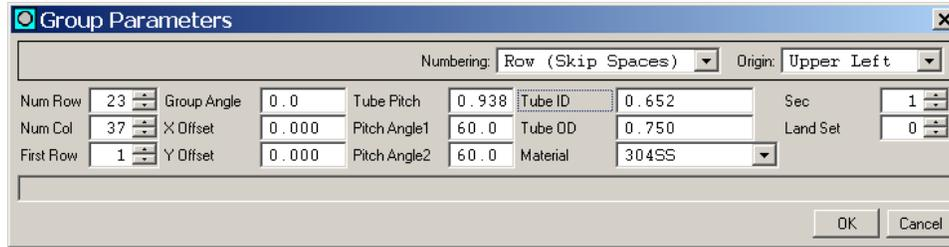

Figure 61. Completed Group Parameters Dialog for Section 1
- STEP 33:** The *Group Parameters* dialog should look like Figure 61. Click *OK* on the *Group Parameters* dialog.